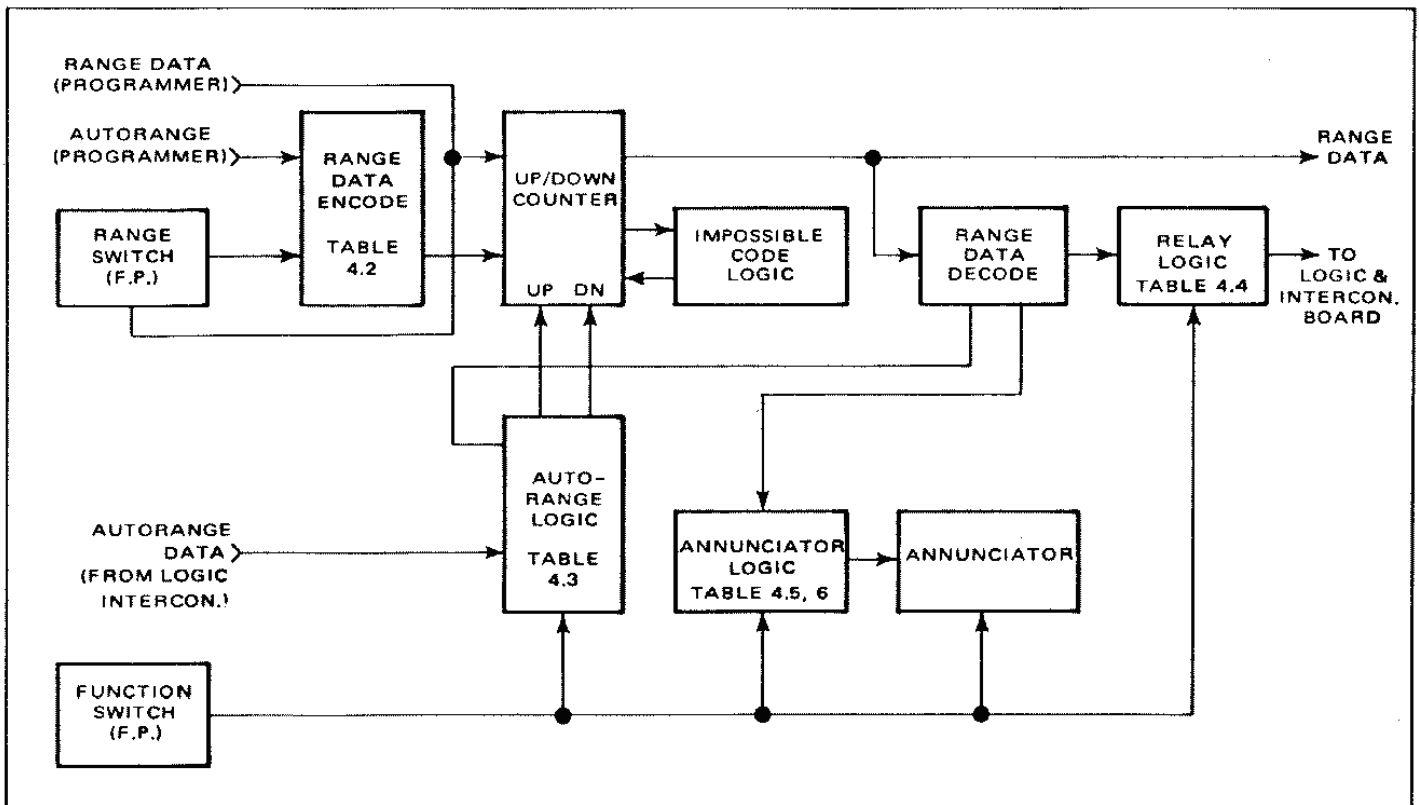

Figure 4.15 - Display Board
4.55 The Display board is a single printed circuit board and occupies connectors J1 and J2 on the Main Logic board. The display board is located directly behind and parallel to the front panel of the instrument; the function and range control knobs on the front panel are connected by shafts to the rotary switches on the display board. A mechanical interlock attached between the two shafts prevents the manual selection of incorrect function/range combinations. The display board contains the function, the manual and autorange, and the annunciator circuitry. The circuit is shown in simplified block form in figure 4.15 and described below.